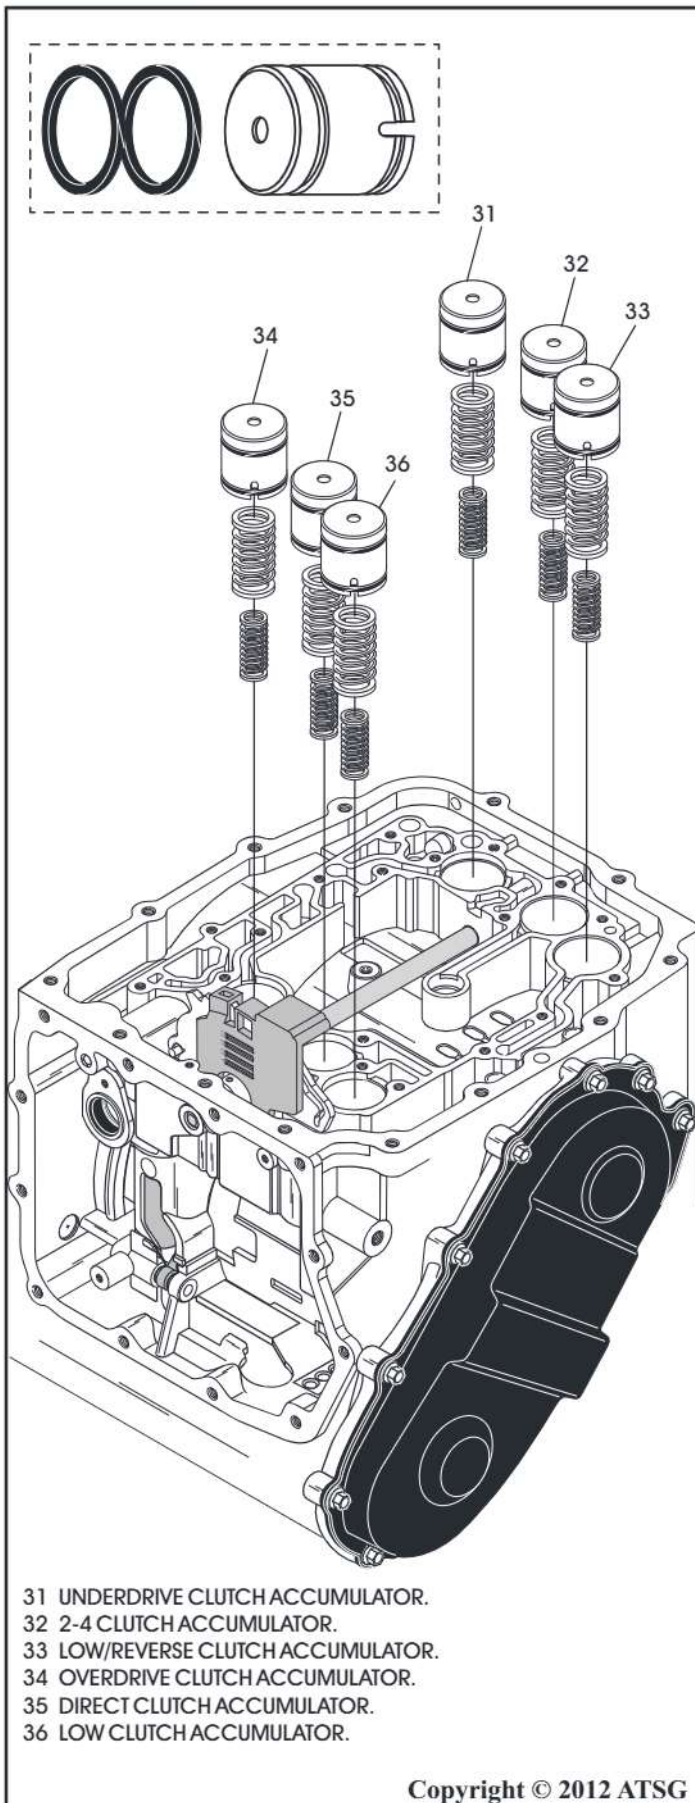

Figure 54
27. Remove each of the 6 accumulator pistons and their springs, as shown in Figure 54.
28. Remove and discard the accumulator piston seals, as shown in Figure 54.